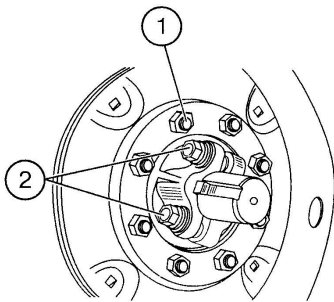

Fig. E-47 Fastening of rear wheel
- unscrew the nuts **1** (fig. E-47) and remove the wheel;